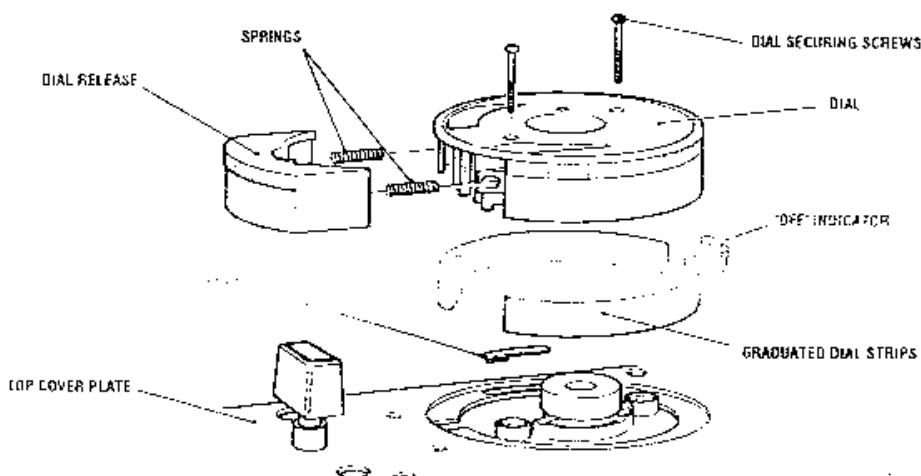

Fig. 5.1 Dial Strip And Stop Moulding Removal
5.2 Removing The Dial Strip (Fig. 5.1)